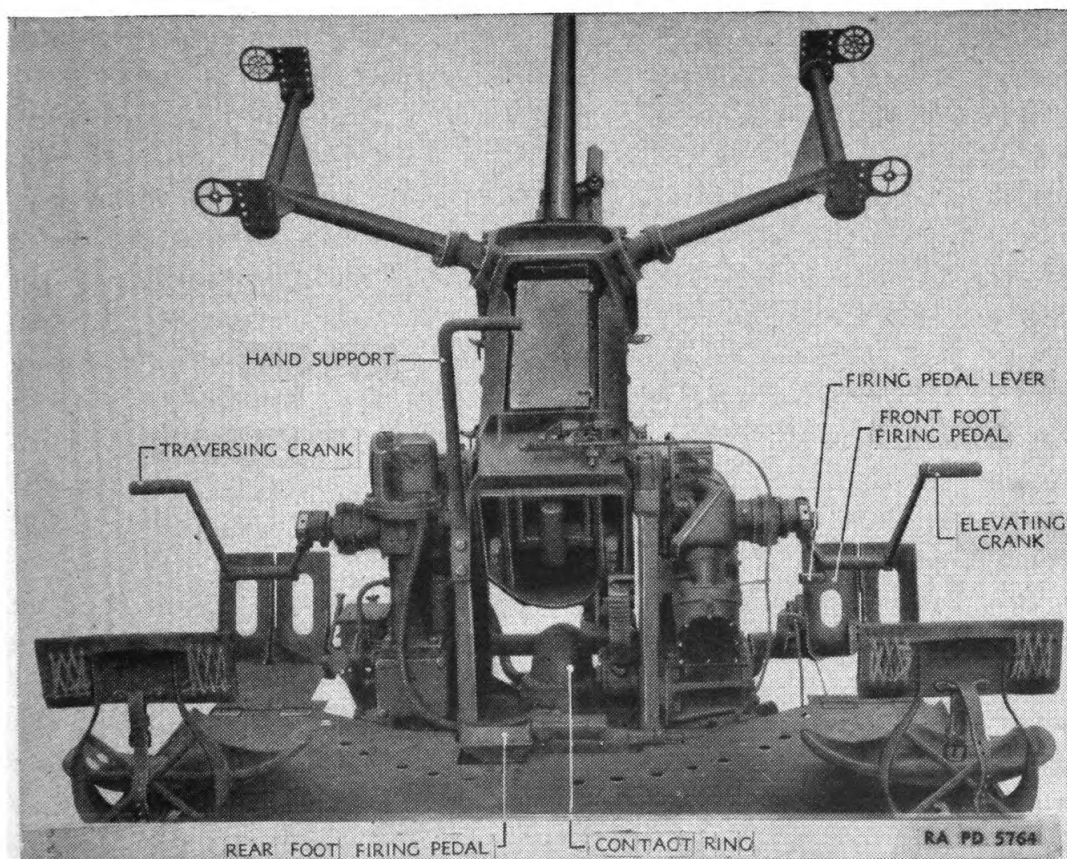

FIGURE 30.—Rear view of top carriage of 37-mm AA gun carriage M3A1.
*b. M3A1 carriage.*—The elevating mechanism of this carriage is found to the right of the cradle. There is one speed obtainable by the elevating crank (fig. 30). The gun and cradle are elevated  $4.67^{\circ}$  for each turn of the crank. The limits of elevation are  $-5^{\circ}$  to  $90^{\circ}$  when using the hand crank and  $0^{\circ}$  to  $85^{\circ}$  when using the remote control system.
*b. M3A1 carriage.*—The traversing mechanism of this carriage is found to the left of the cradle. There is one speed obtainable by the hand crank (fig. 30) of the traversing mechanism. Three hundred sixty degrees (360°) traverse is obtainable.
cable pedal (figs. 30 and 33) which is located on the firing platform directly behind the cradle, can also be used to fire the gun. This pedal has no latch. The mechanism change lever is provided to change the type of firing. When this lever points to the right the word **AUTO** is shown and operation of each pedal will provide full automatic firing of the gun. When this lever is pointed to the left the word **FOOT** is